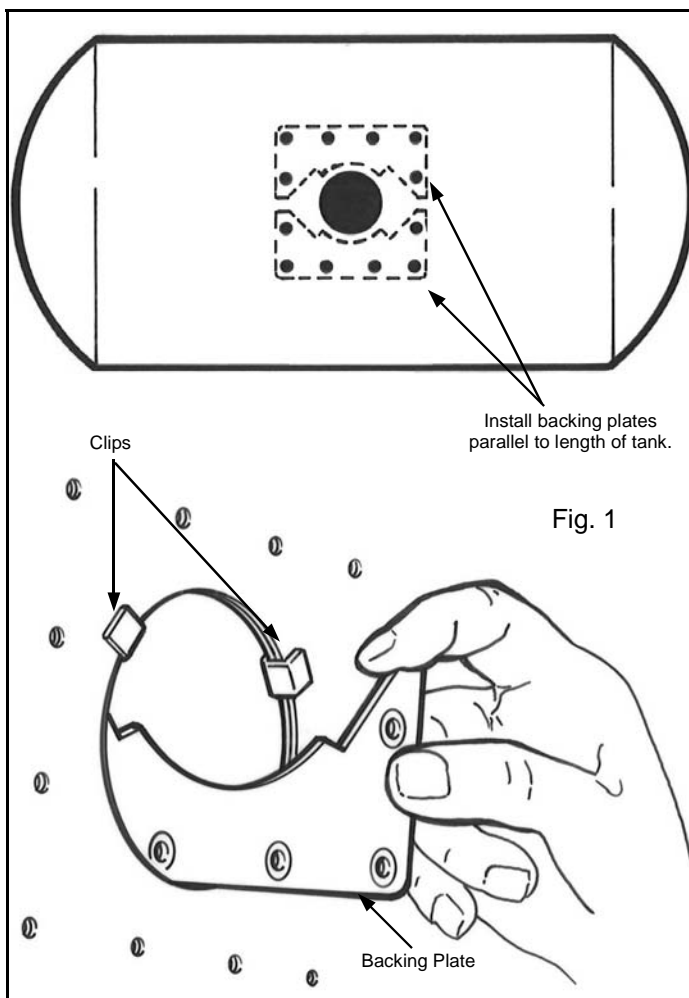

Fig. 1
8. Install the backing plates as shown in Fig. 1: the cutout edge faces the inside of the tank, and the straight edge faces out. If mounting the plates in a round tank, install them so they run parallel with the length of the tank.